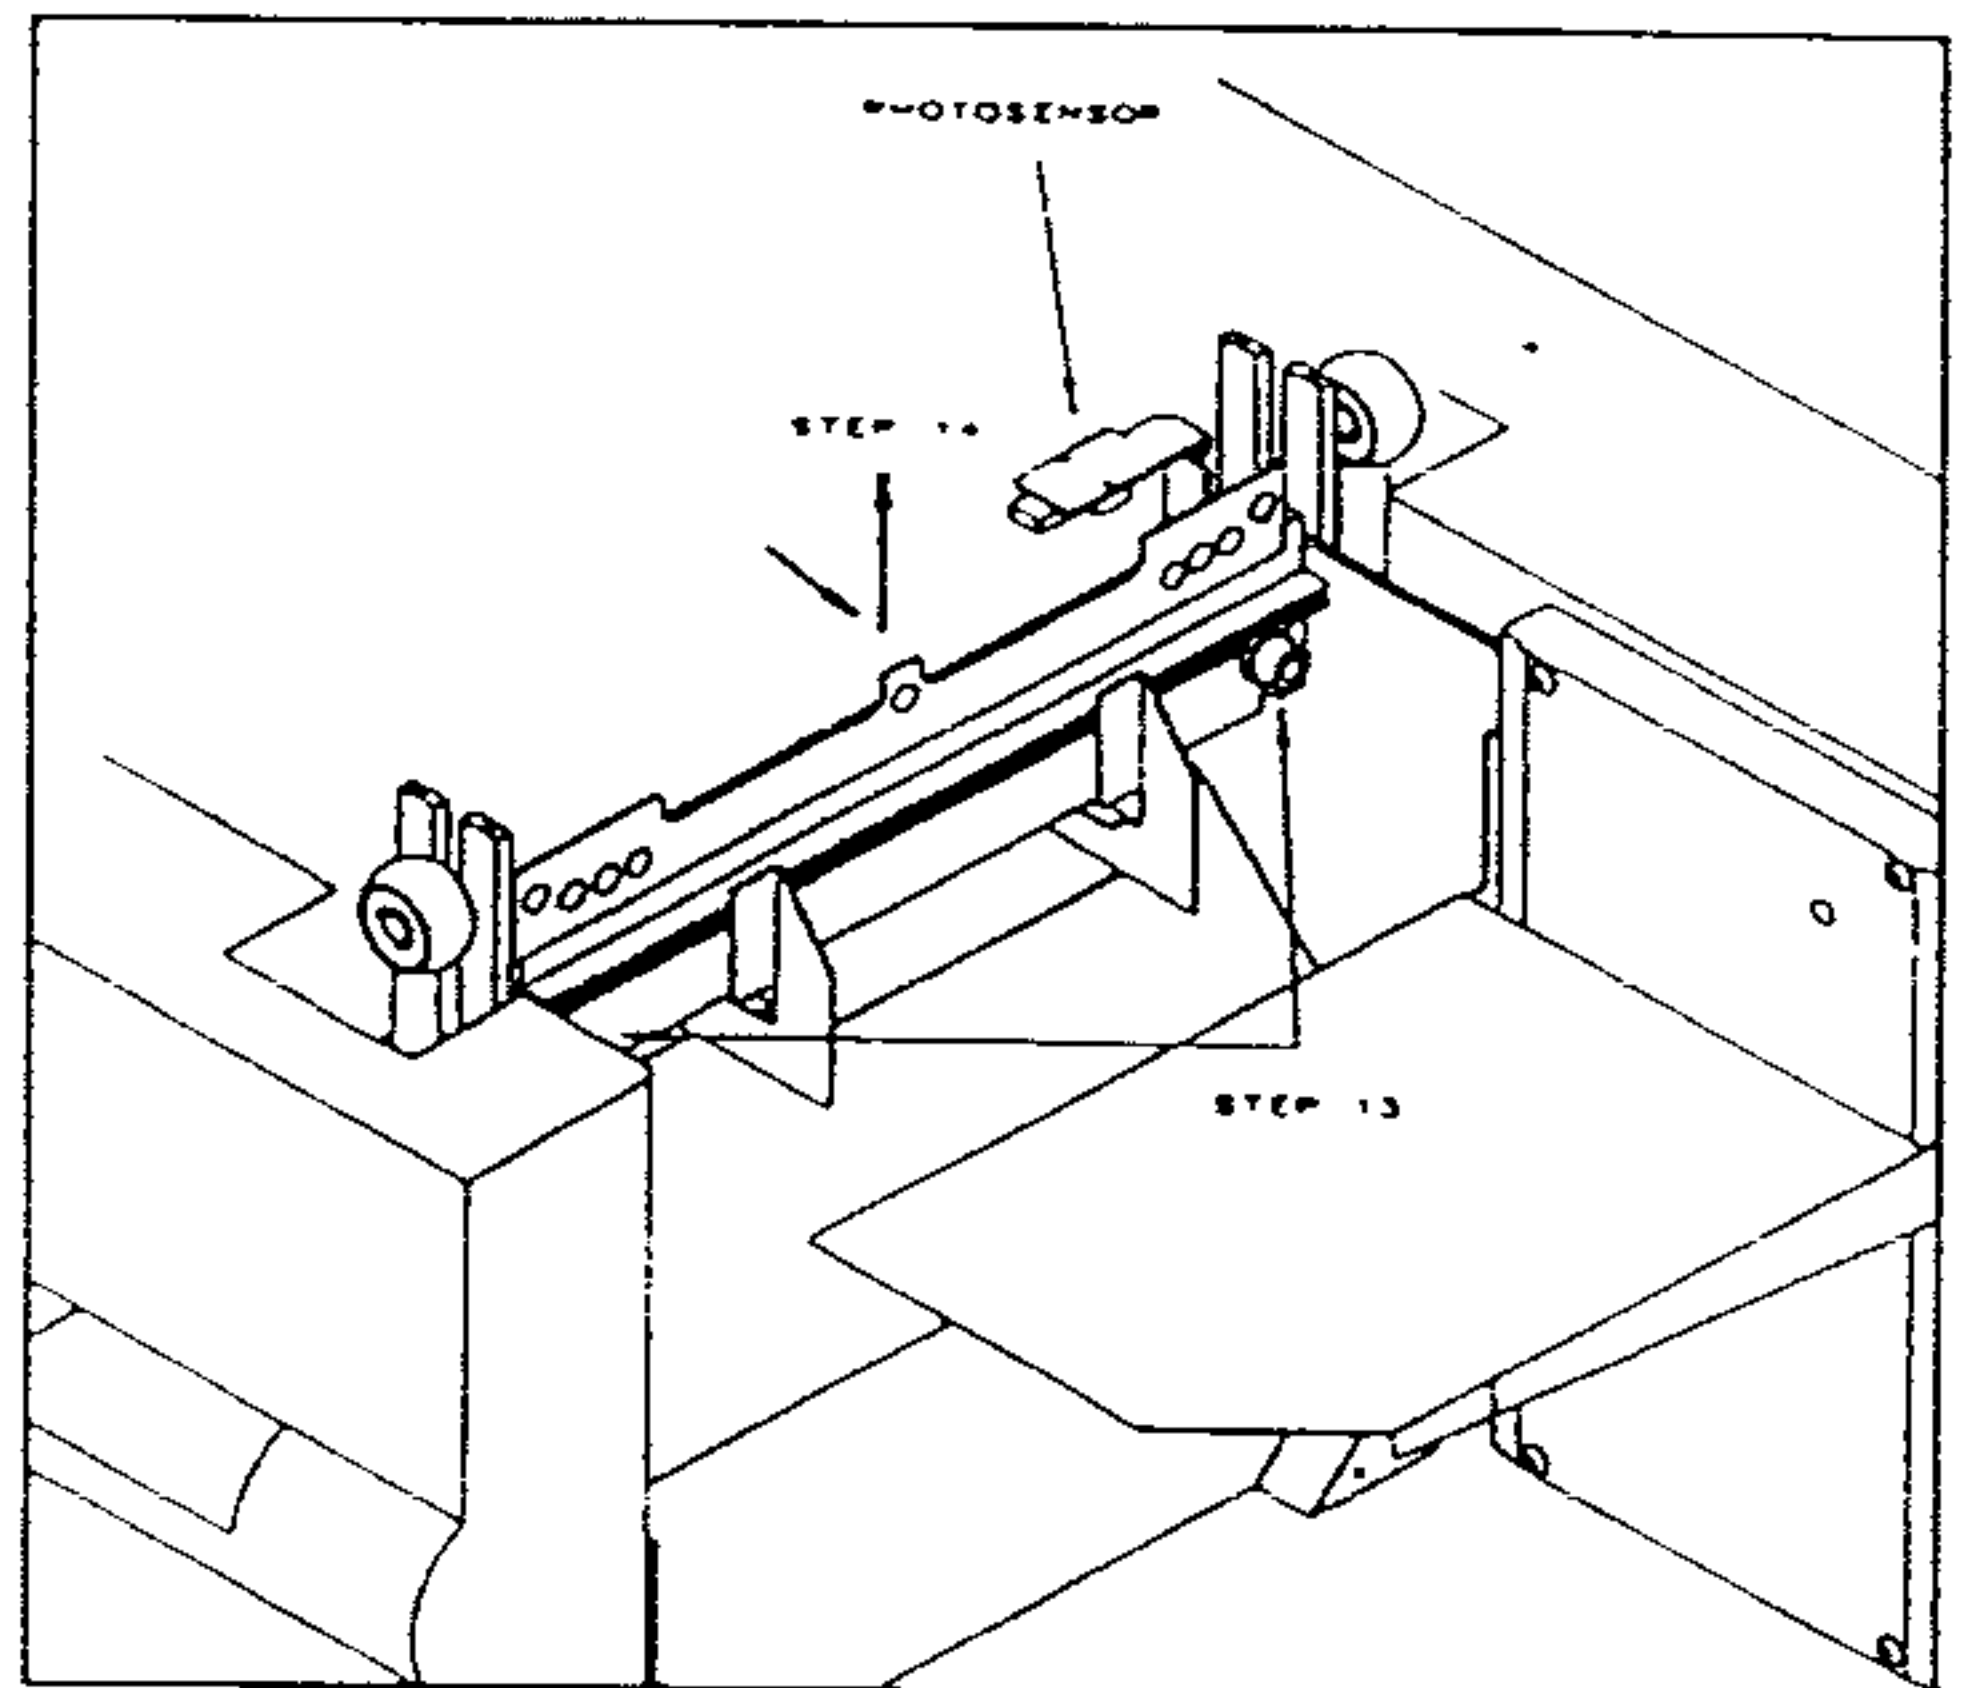

Figure 18
13. Loosen the two (2) 1" Allen head screws holding the punch die to the mount blocks. Rotate the Allen head screws three (3) full turns. Do not remove them. (See Figure 18)
14. Rotate the punch die in the direction of the Output Stacker slightly so that it disengages from the horizontal platform and is clear of the photo sensor. Remove the punch die by carefully lifting it vertically from the AP-1. (See Figure 18)